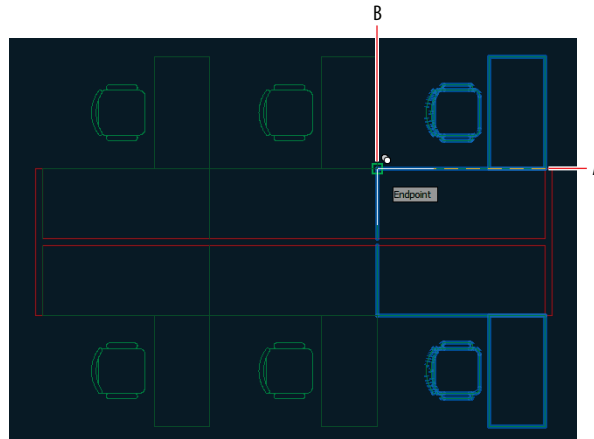

FIGURE 4.12 Copying multiple items
8. Press the spacebar to repeat the previous command, select both desks and chairs with crossing windows (but not the low partition between them), and press Enter. Select point A in Figure 4.12 as the base point. Type **A** and press Enter. The command prompt reads as follows:
9. Type **3**, press Enter, and then click point B in Figure 4.12 as the second point. Press Esc to end the COPY command.